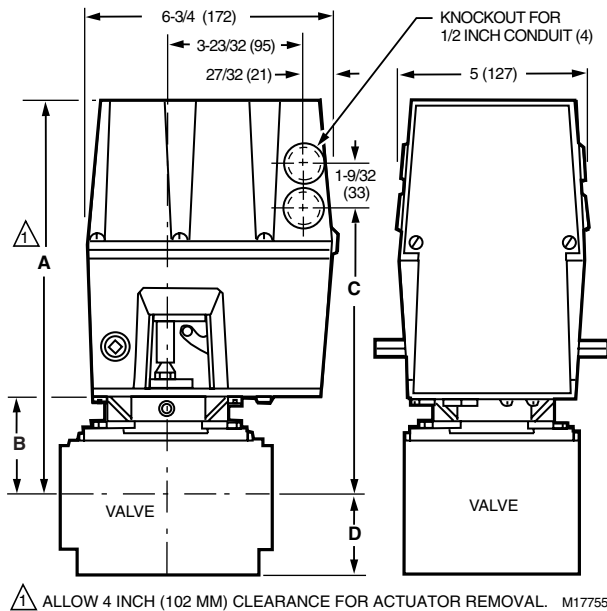

Fig. 1. Approximate mounting dimensions of V4055 Actuators in in. (mm).
**Mounting Dimensions:** See Fig. 1 and Table 7.